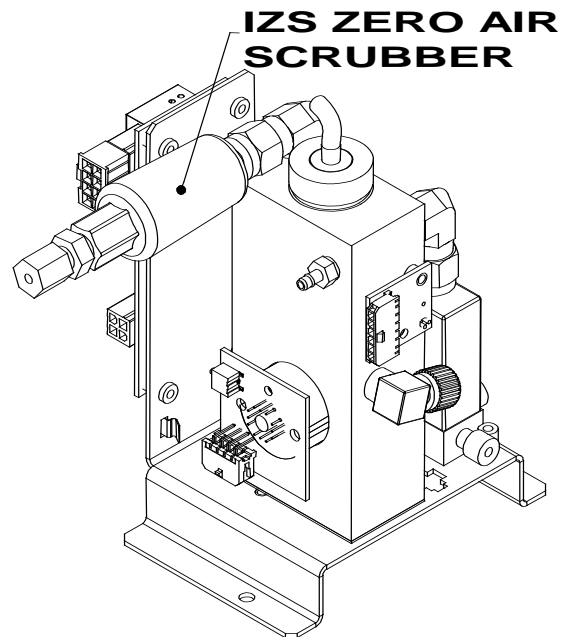

Figure 11-6: IZS O3 Generator Zero Air Scrubber Location
3. The IZS zero air scrubber is attached to the brass elbow inlet fitting on the top of the O3 generator assembly. See Figure 11-6.